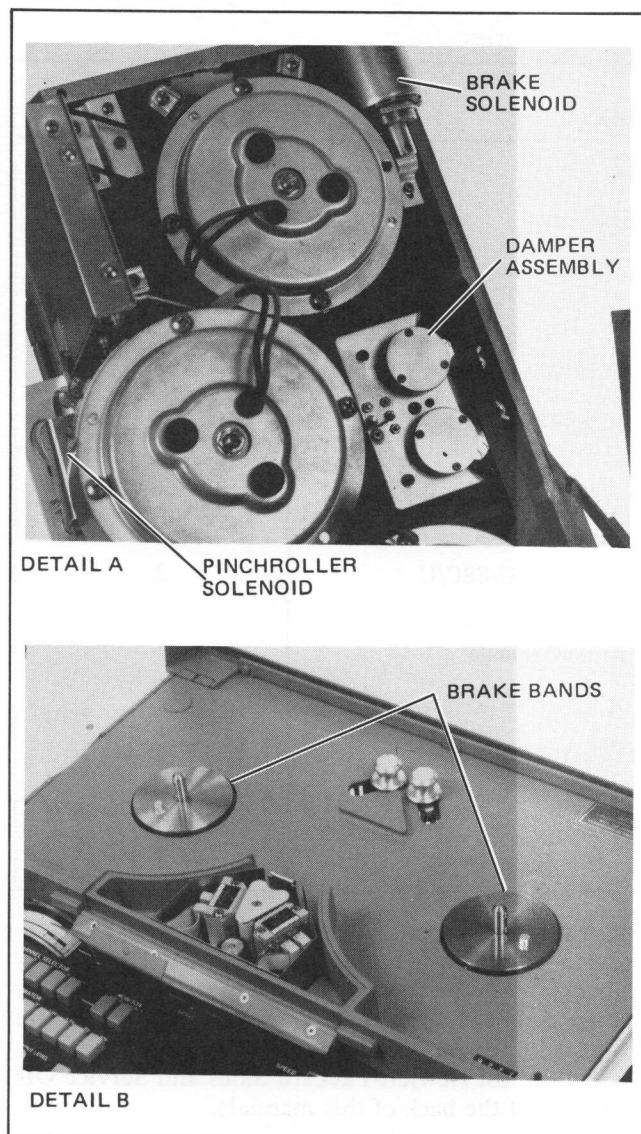

Figure 5-1. Damper, Brakes and Solenoid Identification
- b. Damper assembly (see Figure 5-1) for possible oil leaks or mechanical binding (a light oil film is normal). Dampers should return smoothly to upward, relaxed position when released.
5-14. Keep dirt and tape debris away from the brakes (see Figure 5-1). Be especially careful to prevent oil from contaminating the brake bands. Dirt, tape debris, and oil can enter the brakes through the narrow gap between the reel hub and the deck casting. If necessary, use compressed air to blow out dirt around the brakes. The brakes also can be cleaned with DuPont Freon TF, or equivalent.
5-16. Solenoid plungers (see Figure 5-1) can accumulate dirt and dust and cause a malfunction. Keep the solenoid plungers clean with DuPont Freon TF, or equivalent.